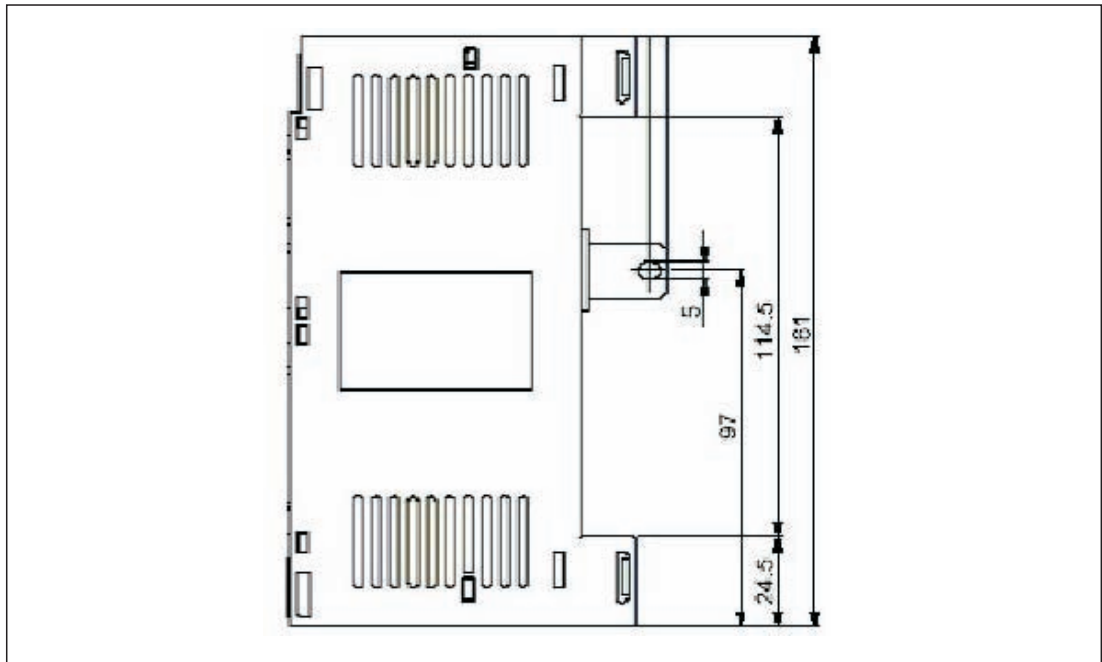

Fig. 2-2: Fastening screw dimensions for extension MR-J3-D01
- ② Position the MR-J3-D01 extension over the upper and lower mounting points 1 on the servo amplifier, then press the extension into place so that the lugs click into position in the upper and lower mounting points 2. This also connects the extension to the amplifier via connector CN7 on the amplifier.
- ③ Fasten the extension securely to the servo amplifier with the M4 screw (included) as shown in Fig. 2-2.